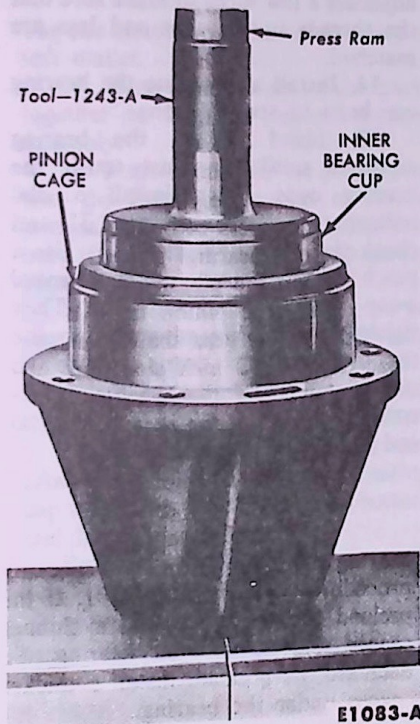

FIG. 23 Installing Hypoid Pinion Rear Bearing Cup
2. Install the rear bearing cup in the pinion cage (Fig. 23). The cup must be firmly seated against the shoulder in the cage.